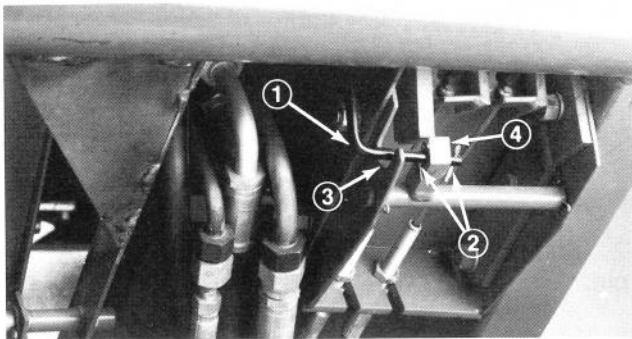

Figure 2
7. Install cotter pin (3/32 x 1/2 in. - 2.4 x 13 mm) through hole at top of parking brake rod. Install another cotter pin (3/32 x 1/2 in. - 2.4 x 13 mm) through inside hole at L-shaped end of brake rod (Fig. 2).
9. Slide top of rod up the steering tower and bottom of rod between cutout in brake mount and through hole in parking brake latch (Fig. 2). Install cotter pin.